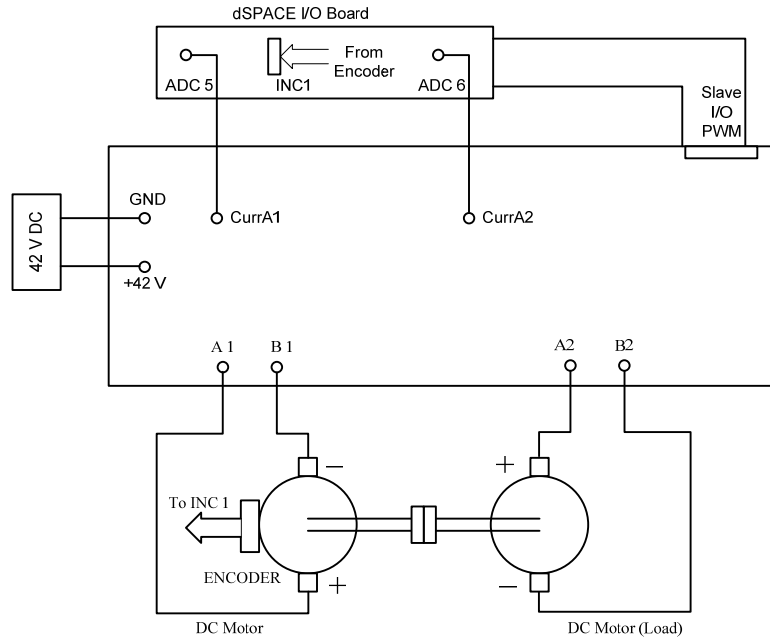

Figure 4.3: Connections for torque speed characteristics
- Make connections as per Fig 4.3
- Record the motor speed ($\omega_{rad/sec}$), the LOAD current (**IL**) and LOAD voltage (**V_load**) required to obtain the specified MOTOR currents. All current measurements will be multiplied with k_E to obtain the corresponding torque values as per equation (2). (**The sign of speed will be positive for the motor with the encoder and opposite for the motor without encoder.**)